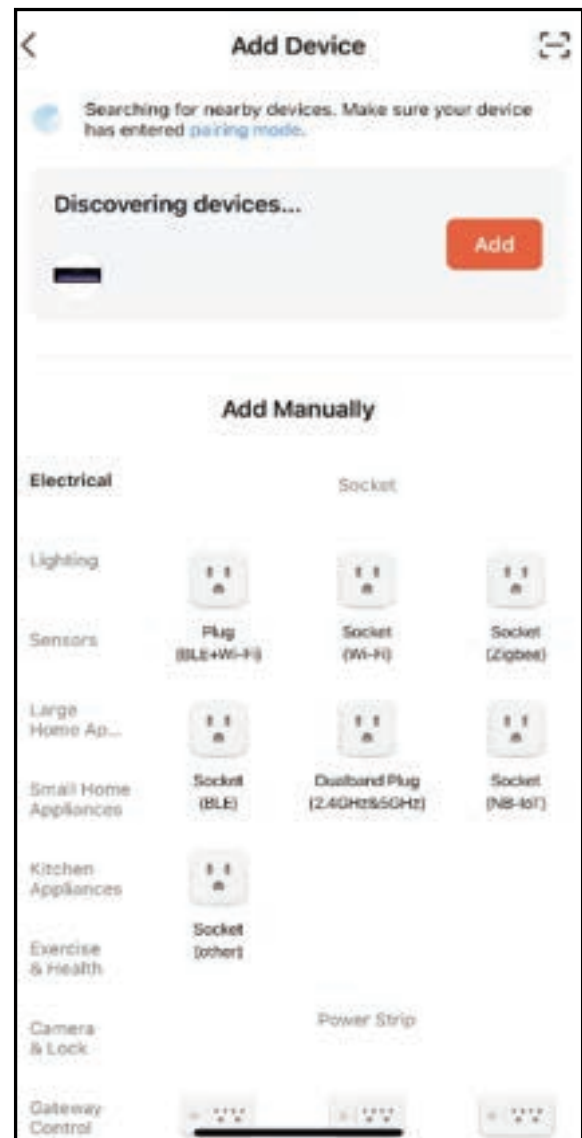

Figure 2
2. When you log in, the APP will scan and add the fireplace to APP(Figure.2) automatically. Touch “Add” to enter in Figure 3. Touch “+” to set your Wi-fi account and password(Figure 4). Touch “Next” to enter Figure 5. Touch “Done” to finish Wi-fi setting.